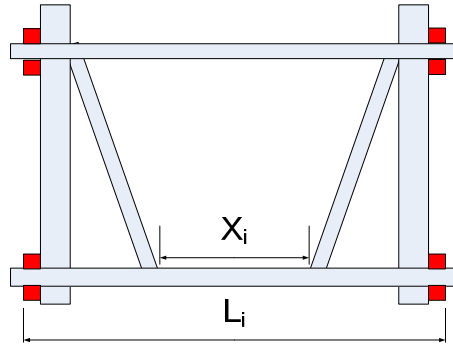

Figure 6
4.7.1 Based on flow and space consideration, a real building should contains doors and windows on each floor. Therefore, every floor of the model must keep some exterior clearance  $X_i$ , in which there is no material/member installed along the perimeter  $L_i$  of the floor (Figure 6). The ratio of  $X_i$  to  $L_i$  for each floor should be not less than a certain value (values will be specified later). It should be noted that the downward projected lengths of bracings and walls should also be considered.
4.7.2  $\Sigma L_i$  (Figures 6 and 7) is the sum of the floor perimeter defining the floor area shown as Figure 4.  $\Sigma X_i$  is the sum of the parts of the floor perimeter, which are not occupied by the projection of walls, bracings and columns.